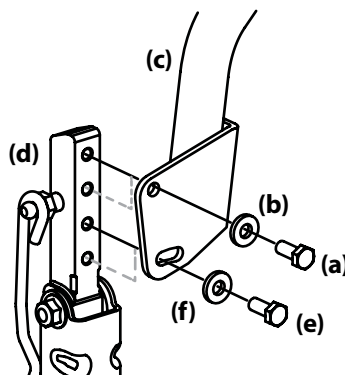

Figure 4-4
2. While supporting the drive control lever to keep it from falling, remove the hex screw (e) and flat washer (f) from the bottom of the drive control lever (c) and lower arm (d). Refer to Figure 4-4.
1. If not already loose, loosen the hex screw (e) and rotate the control lever either forward or rearward to the desired position. See Figure 4-4.